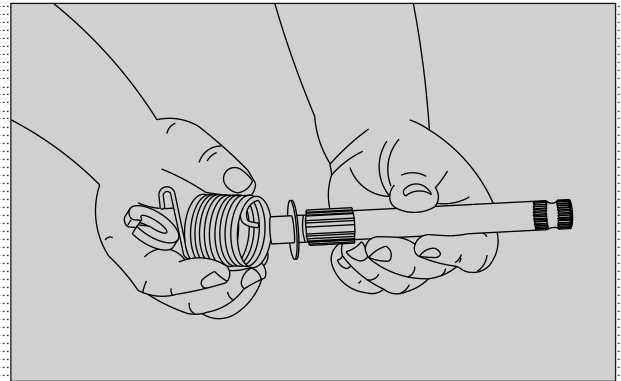

Fig. 3.107
- Separate guide kick starter spring, spring kick shaft return and shim (14x32x1). (Fig. 3.107)